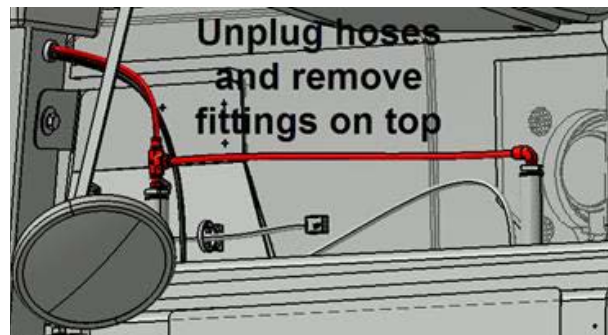

Figure 5: Removing air supply
Note: Only remove the top fittings and hose between the cylinders (Figure 5).
- 10) Add thread sealant on fittings. Connect fittings and hoses. (Figure 5)